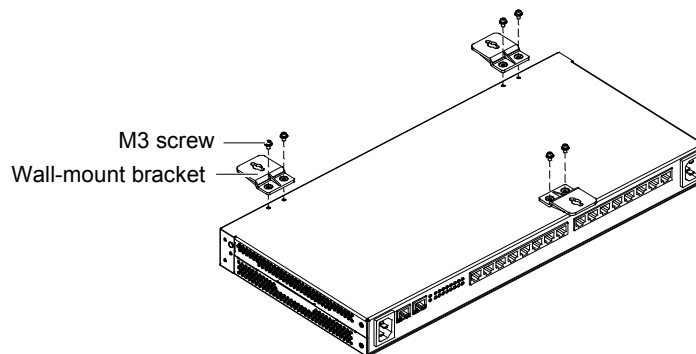

Figure 2-1 Installing wall brackets
1. Fasten three wall brackets to the cover panel of the monitoring equipment with provided M3 screws, as shown in Figure 2-1.